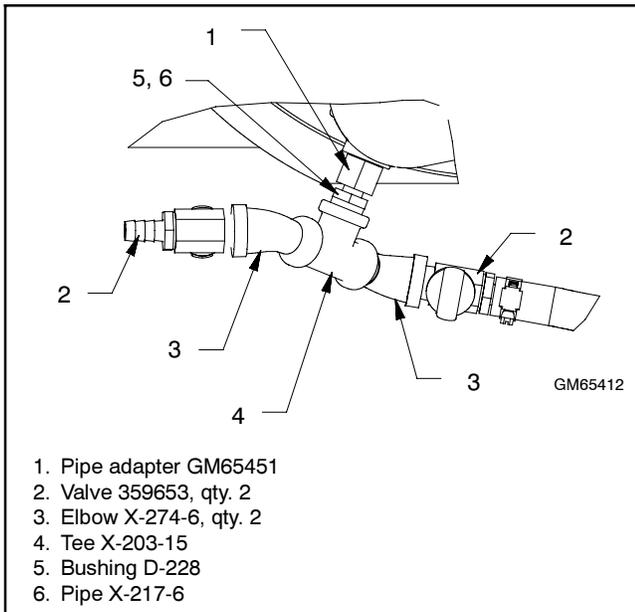
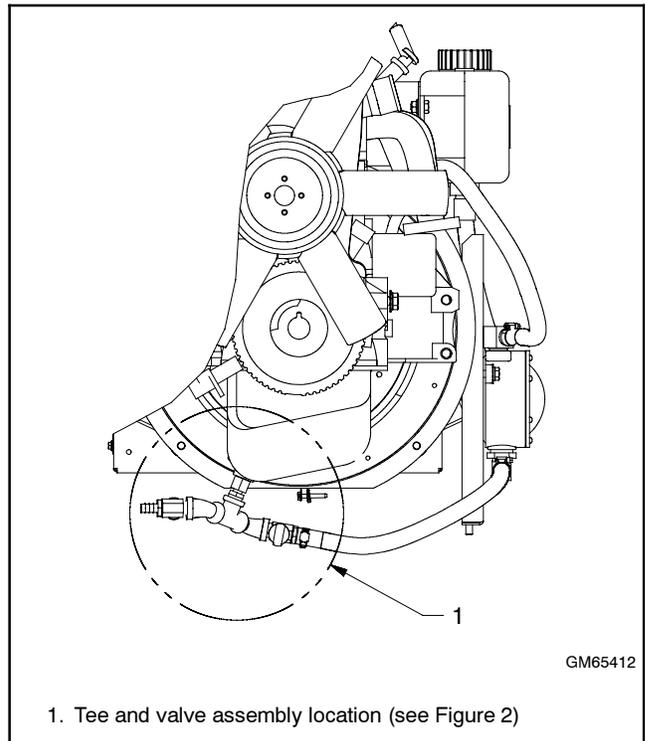

Figure 2 Tee and Valve Assembly
Figure 3 Valve Assembly Location
6. Install the new oil valve assembly shown in Figure 2 and Figure 3 as follows:
- a. Install tee X-203-15 with bushing D-228, pipe X-217-6, and pipe adapter GM65451 into the drain hole in the oil pan. See Figure 3.
- c. Install the two valves, 359653. See Figure 2. Close both valves.